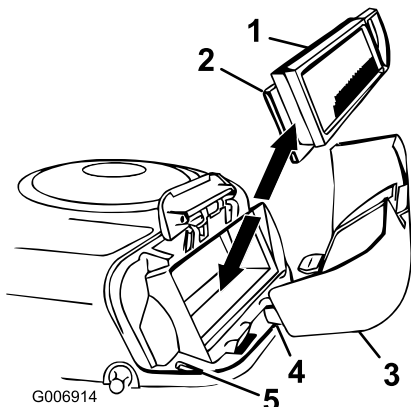

Figure 21
7. Carefully slide the paper element and the foam element from the blower housing (Figure 21).
2. Align the tabs on the air cleaner cover with the slots of the blower housing (Figure 21).